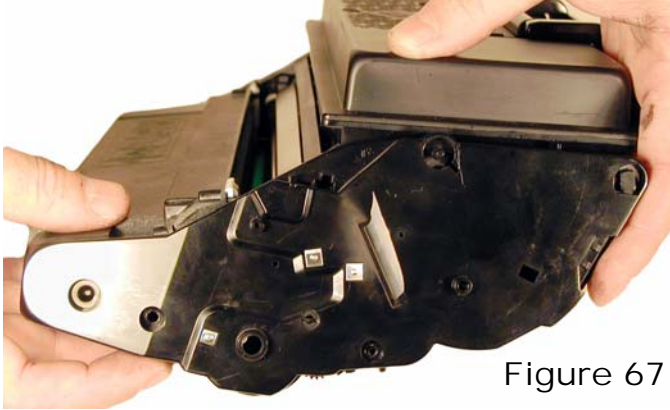

Figure 67
61) Pull the seal tab through the end cap seal slot. See **Figure 67**